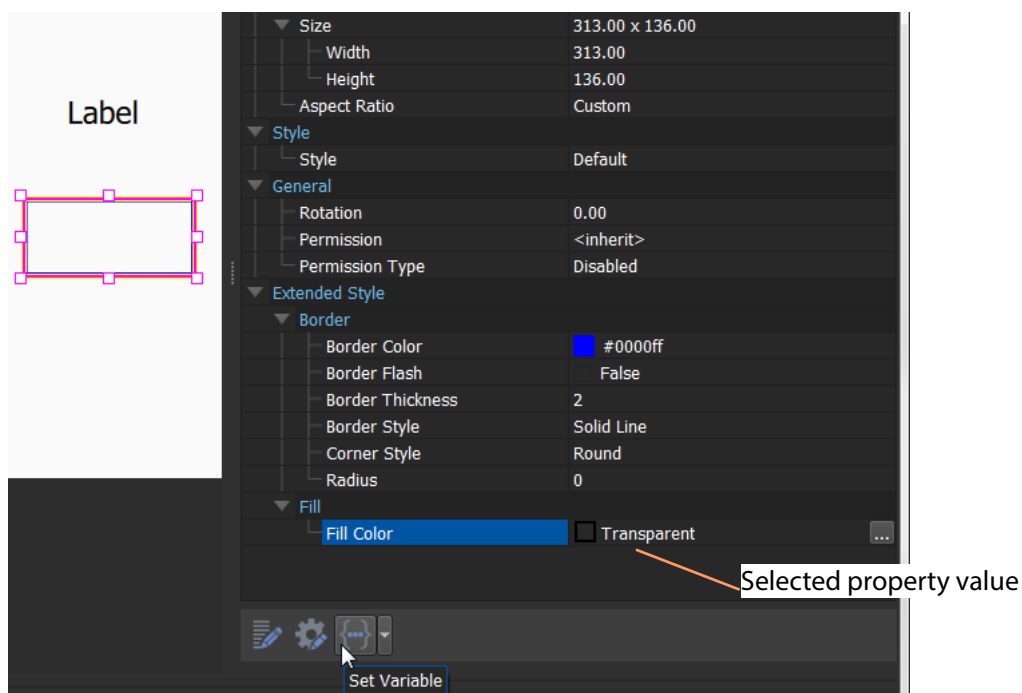

Fig. 4-9: Select Property Value
- Select a property value. See Figure 4-9.